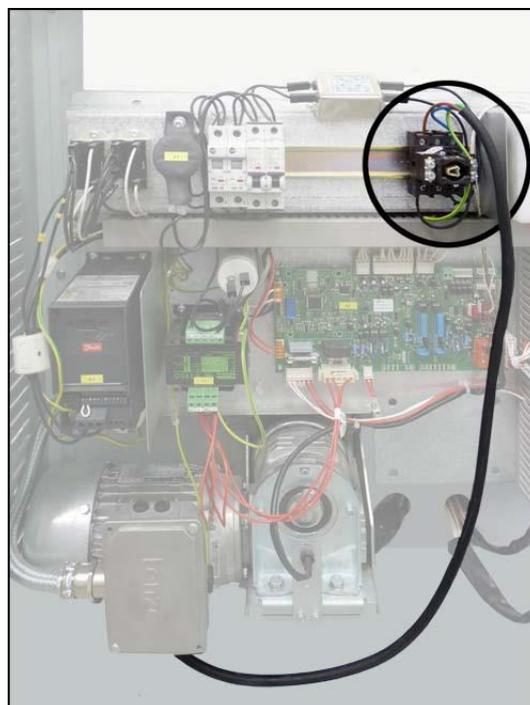

Fig. 5.2
**Model PB32, X13 with gas heating** (Fig. 5.2)